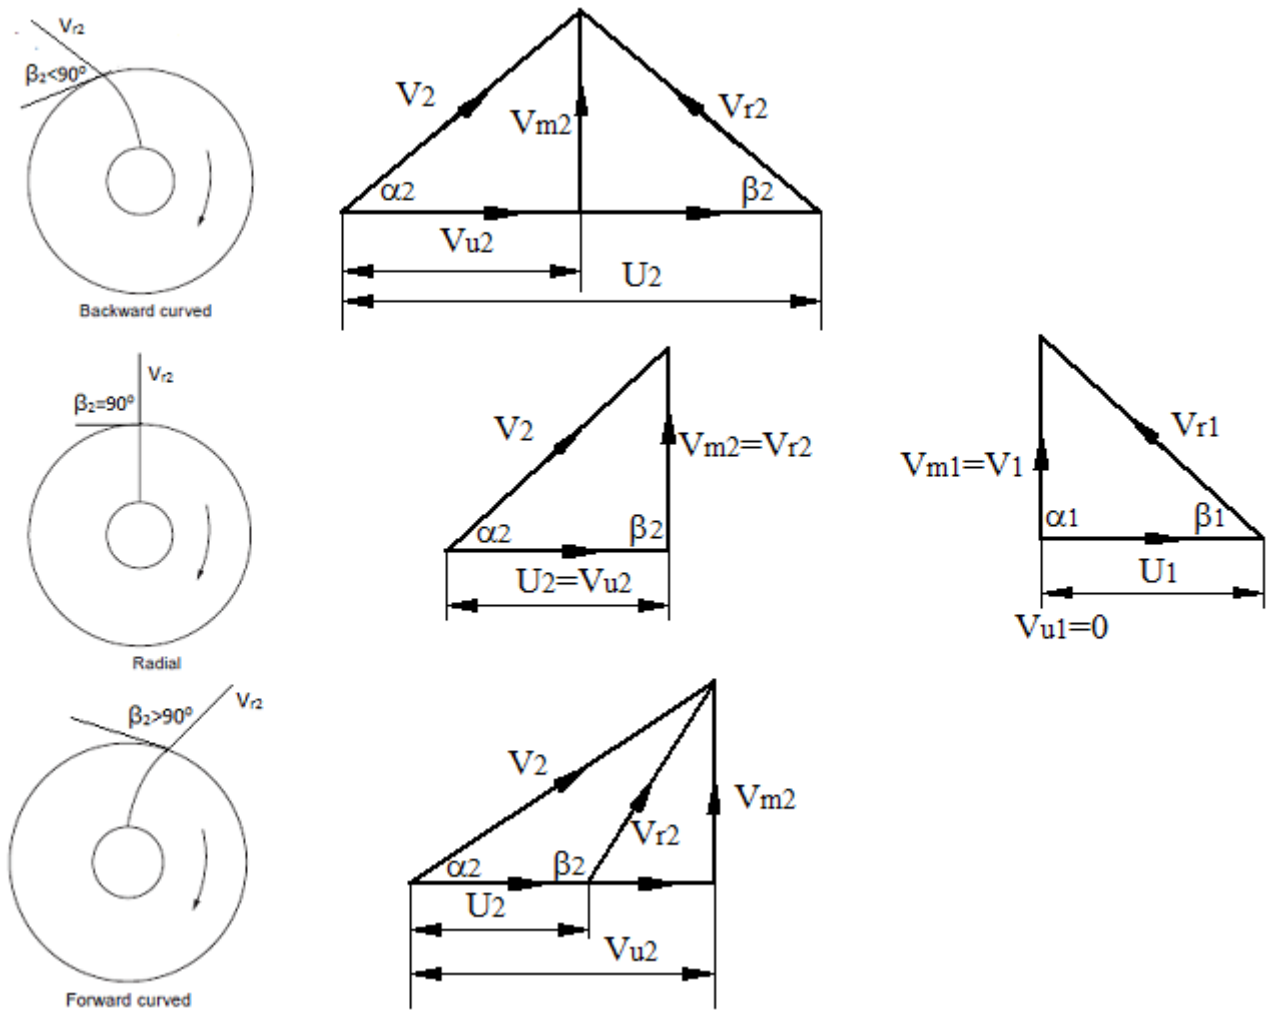

Fig. 5.2 Different vane shapes in centrifugal compressors.
**Answer:** Figure 5.2 gives the velocity diagram for different vane shapes. For compressor which absorb a specific amount of energy and runs at a given speed, the diameter ( $D_2$ ) and whirl velocity ( $V_{u2}$ ) can be varied to maintain  $U_2 V_{u2}$  at the required value. Hence if  $\beta_2$  is large (as in forward curved vane),  $V_{u2}$  is also large and  $U_2$  has to be small that is diameter should be decreased. Similarly, if  $\beta_2$  is small (as in backward curved vane),  $V_{u2}$  is small. Hence  $U_2$  has to be large and the diameter should be increased appropriately to provide the required performance. This implies that compressor with backward curved vanes are larger in size than those with forward curved (or radial) vanes of the same capacity.